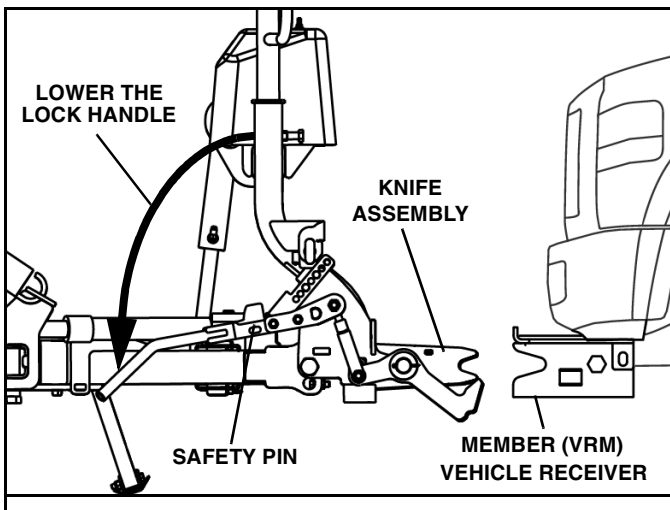

Figure 1-19
21. Release the lock handle safety pin and lower the lock handle fully. (See Figure 1-19).
23. Drive truck up to plow and engage the plow knife assembly with the VRM on the truck. (See Figure 1-19).